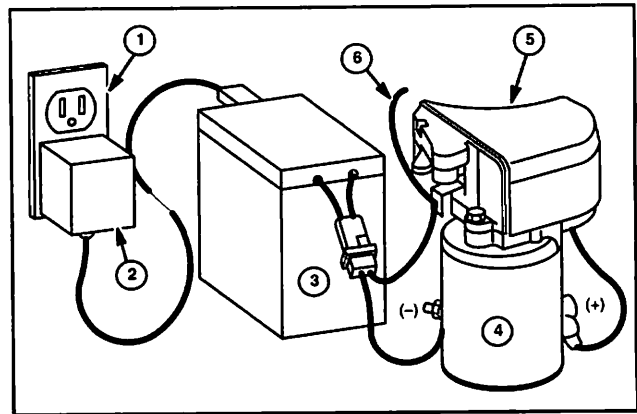

Fig. 8
Briggs & Stratton System 3® and System 4® consist of a starter motor (4), starter switch and/or starter solenoid (5), wiring harness, (wire #6 goes to engine alternator), 6 or 12 volt battery (rechargeable) (3), alternator, and separate trickle type battery charger (2). A typical System 3® or System 4® engine is shown in Fig. 8.